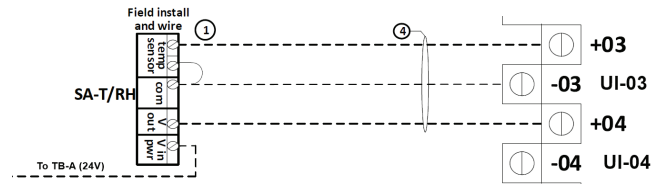

**Fig. 72 – SAT/RH Configuration**
- Verify that the sensor is set to provide a voltage output and the output voltage is set for 10V. See Fig. 72.